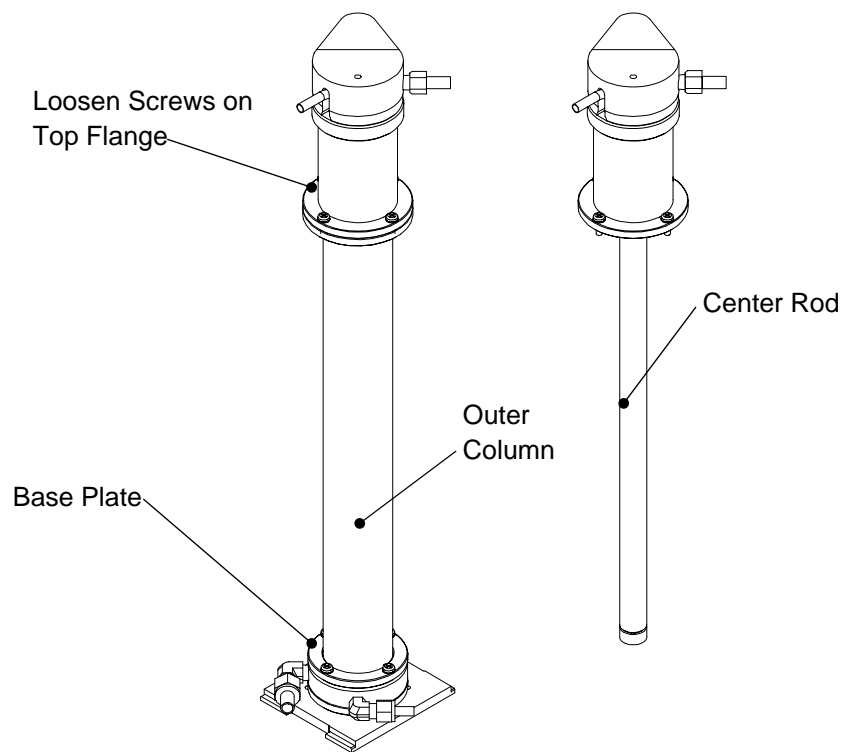

Figure 8-1
To clean the inner rod and inside of the outer tube, follow these steps and refer to Figure 8-1:
7. Find the DMA column shown in Figure 8-1 and follow the high voltage wire from the top of the DMA column to high voltage plug at the bottom of the butanol bottle recess. **Disconnect the high voltage connector** by pulling out on the connector.
9. Loosen the four screws (see Figure 8-1) on the top of the flange, leaving them one turn from complete removal. Leaving the screws partially in place helps control the disassembly process, preventing the parts from suddenly breaking loose and banging together internally.